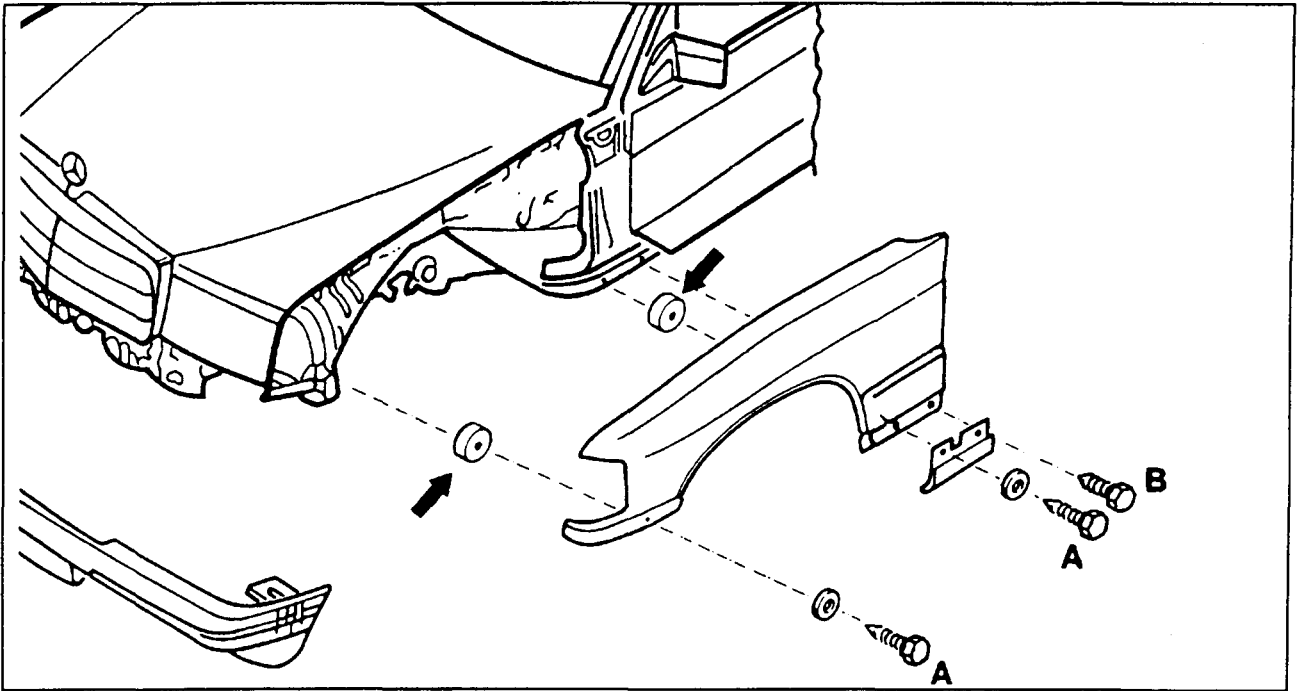

Figure 5
10. Press sides of bumper downward and unscrew bolts (A and B, Figure 5). Position spacers (arrows) between fender and body as shown. Ensure that the holes align for easier installation.